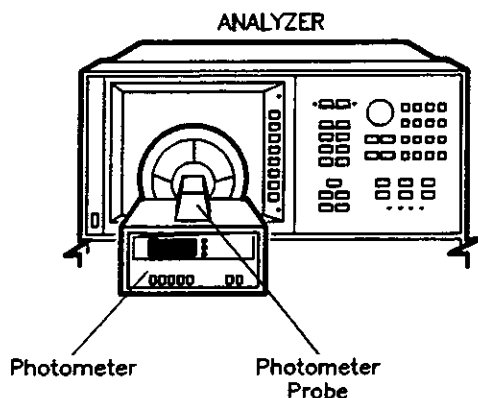

Figure 5-3. Maximum Intensity Adjustment Set-up
8. Center the photometer on the analyzer CRT as shown in Figure 5-3. Adjust the analyzer front panel knob to the maximum (clockwise) position. If the photometer registers greater than 150 NITs *(90), turn the front panel knob until a reading of no more than 150 NITs (90) registers on the photometer. If the photometer registers a reading of less than 150 NITs (90) and greater than 100 (60) NITs, proceed to the next step. If the photometer registers a reading of less than 100 NITs (60), the display is faulty.
10. Center the photometer on the analyzer CRT as shown in Figure 5-3. Adjust the analyzer front panel knob until the photometer registers 100 NITs of output light if the glass bezel assembly is not installed. Adjust for 60 NITs if the glass bezel is installed.